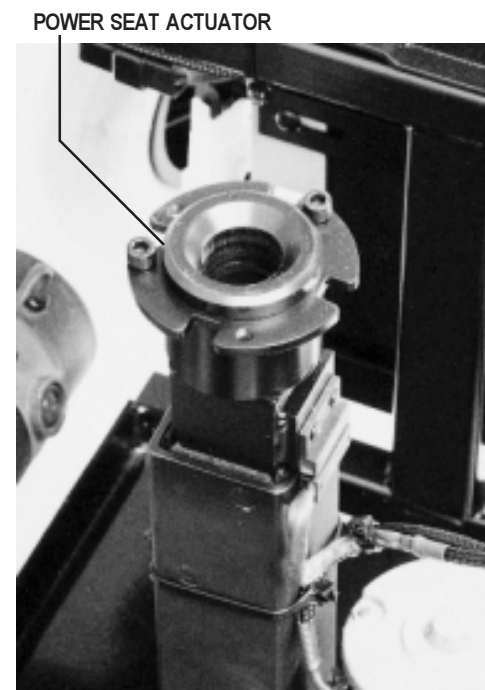

Figure 14. Power Seat Actuator
1. Align the seat shaft to the hole in the power seat actuator. See figure 14.